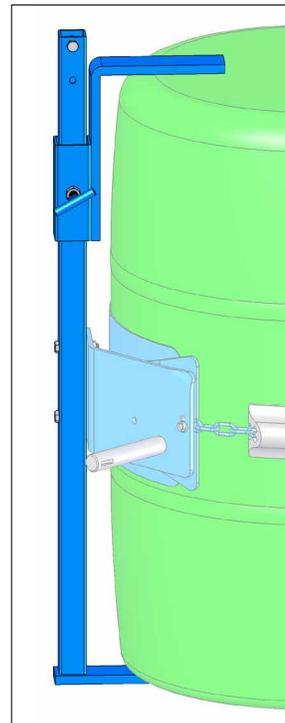

Figure 2.1
- 1. Bracket Assembly Kit # 4556-P** is required to handle a RIMLESS plastic drum (figure 2.1), and is also recommended for a fiber drum. The Bracket adjusts for a 31" to 39" (79 to 99 cm) tall drum. You can also handle a rimmed drum with the Bracket installed.